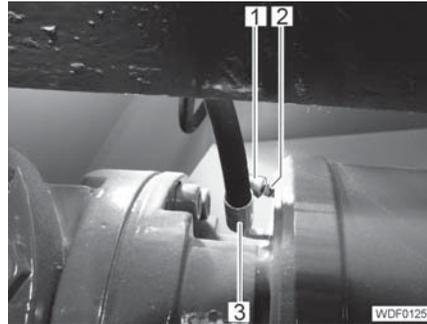

Fig. 142 Front axle venting nipple
- Pull off the protective cap (Fig. 142,1).
- Attach the transparent hose to the venting nipple (Fig. 142,2).
- Unscrew the venting nipple (Fig. 142,2) by 1/2 a turn.
- Tighten the venting nipple (Fig. 142,2).